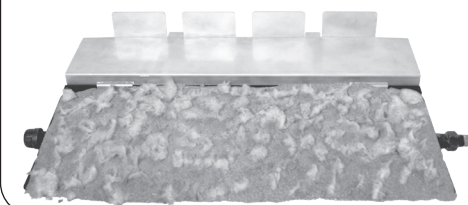

Fig. 1-3 Cover media with glowing embers
3. Sprinkle the glowing embers lightly and evenly over the entire surface of the sand/vermiculite as shown in Fig. 1-3. **Break up any clumps that may have developed during shipment. The remaining embers will be used at a later point in this kit installation.**